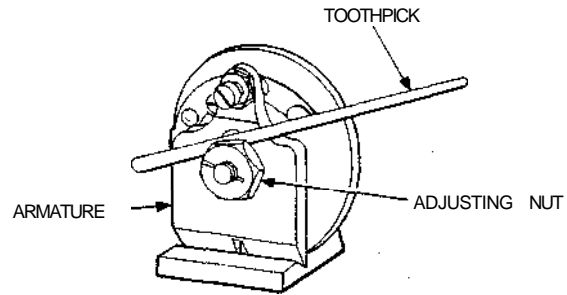

Fig. 14—Blocking 89-, 101-, 105-, 108-, and 172-Type Relays - Operated
3.11 89-, 101-, 105-, 108-, and 172-Type Relays: Fig. 14—Block relays operated by inserting a toothpick between the armature and the adjusting nut.